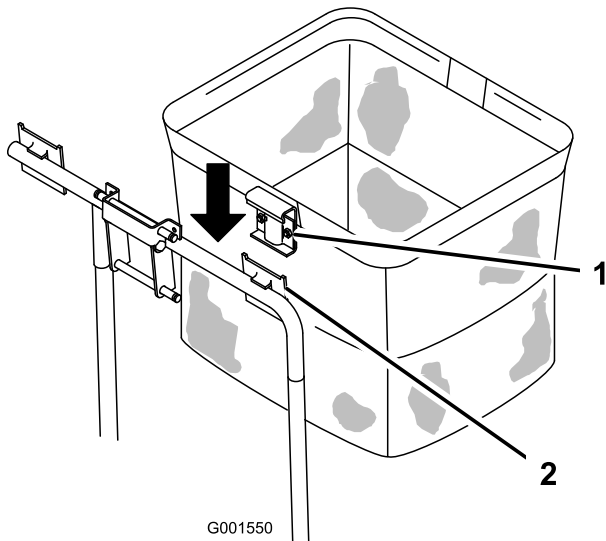

Figure 17
4. Install the bags by sliding the bag frame hooks onto the retaining brackets (Figure 17).